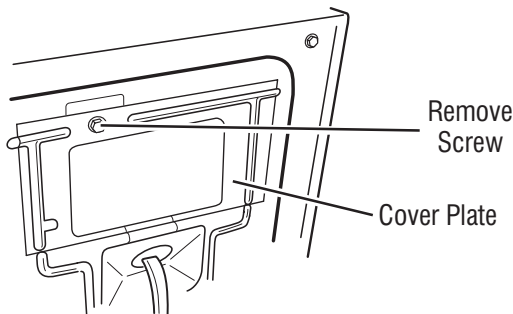

Figure 3 - Remove the cover plate.
2. Remove the cover plate from the top right corner of the back of the dryer. See figure 3.